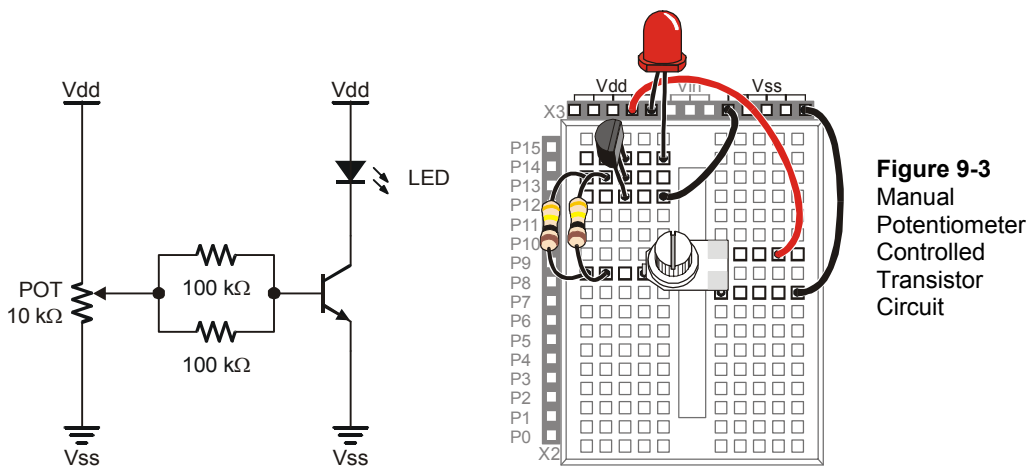

Figure 9-3
Figure 9-3 shows a circuit that you can use to manually control how much current the transistor allows through the LED. By twisting the knob on the potentiometer, the circuit will deliver different amounts of current to the transistor's base. This will cause a change in the amount of current the transistor allows to pass from its collector to its emitter. The LED will give you a clear indication of the change by glowing more or less brightly.
- ✓ Build the circuit shown in Figure 9-3.